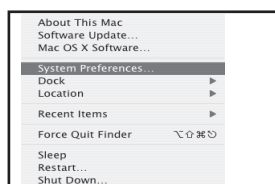

Figure 10
2. To select the Studio GT as the computer's audio input, open the System Preferences from the dock or the main Apple Menu (Figure 10).